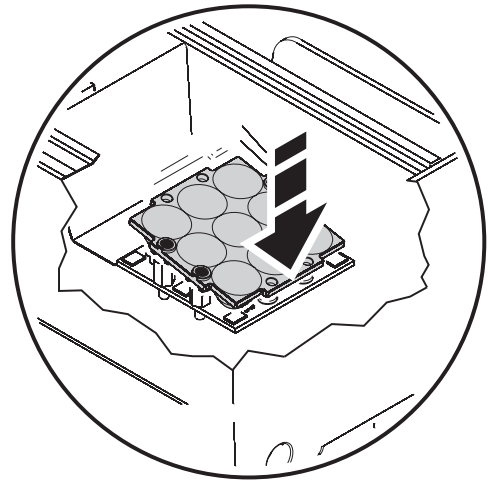

Figure 5: Removing a lens array
5. See Figure 5. Lens arrays are retained by magnetic mountings. To remove a lens array, press on one side until you can grip the other side. Lift the lens array off the magnets and store for possible future use. To install a lens array, place it into position on its magnetic mounting posts and check that it is held securely.